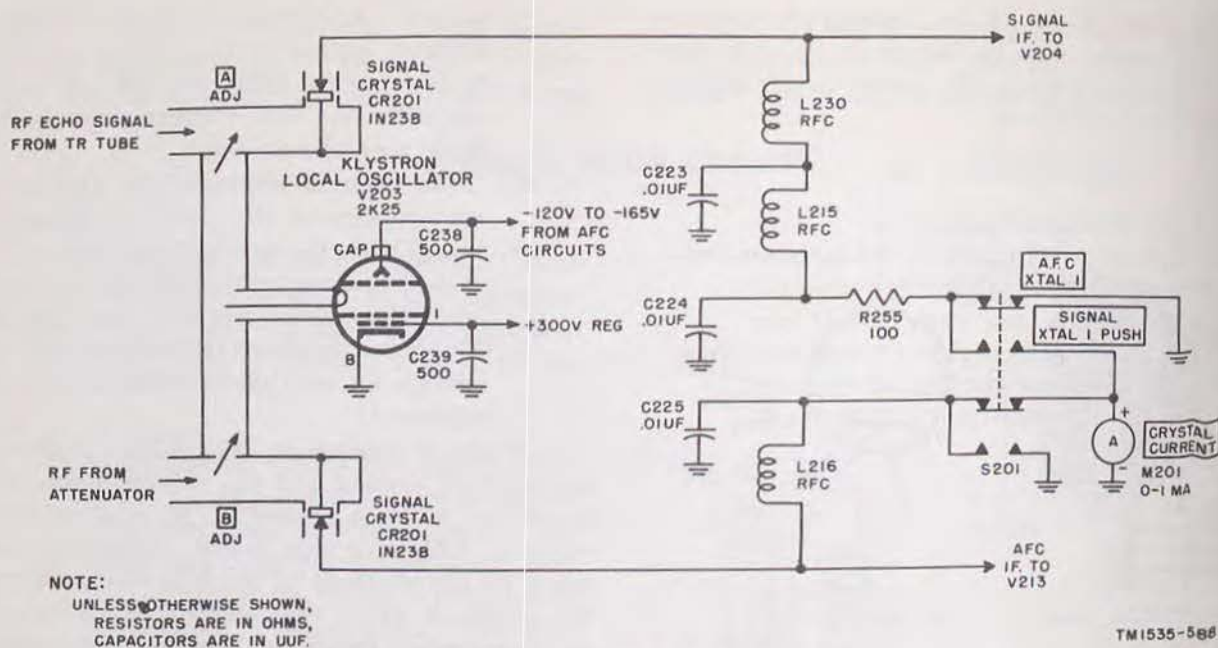

Figure 44. Mixer circuits, schematic
- (2) The echo signals enter the signal crystal cavity through the TR tube. The klystron local oscillator output, which is 30 mc above the echo signal frequency, enters the signal crystal cavity through the coupling window between the oscillator cavity and the signal crystal cavity. The degree of coupling between the klystron local oscillator and the signal crystal cavity can be varied by means of adjustment (A, fig. 44). The difference frequency between the echo signal and the klystron local oscillator output is detected by signal crystal CR201 and fed through the coaxial connector to the input of the cascade if. amplifier (V204, V205).
crystal cavity can be varied by means of adjustment (B, fig. 44). The difference frequency between the magnetron output and the klystron local oscillator output is detected by afc crystal CR202 and fed through the coaxial connector to the grid of aft if. amplifier V213.
(fig. 44)